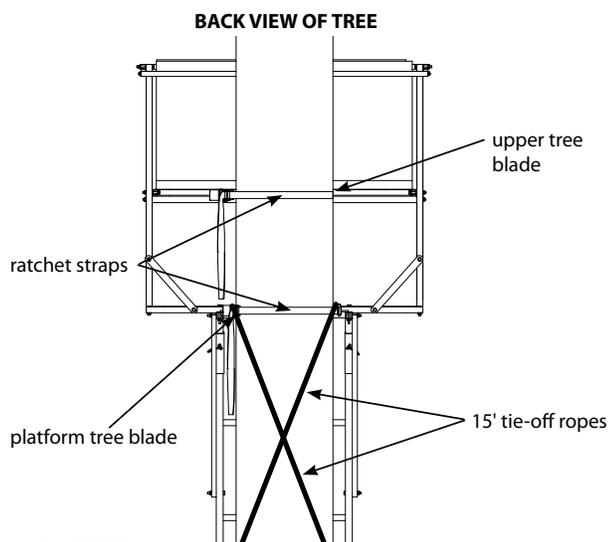

Figure 1a (RE615)
- Position (2) people at the platform end of the ladder, lift the platform end and continue uprighting by walking toward bottom end of ladder and moving hands along ladder legs. **Stand ladder up against chosen straight tree on dry, level ground.** Use caution when ladder comes over center against the tree.
- Wrap the previously attached 15' tie-off ropes hanging down from platform, around the back side of tree in opposite directions of each other. Pull the ropes snug and tie them to the ladder at the stabilizer bar height location. This ground level ladder-to-tree attachment will prevent the ladder from pulling away from the tree while ascending to top for final ratchet strap attachment. The same holds true when ladder removal is necessary. **SEE FIGURE 1a and 1b**